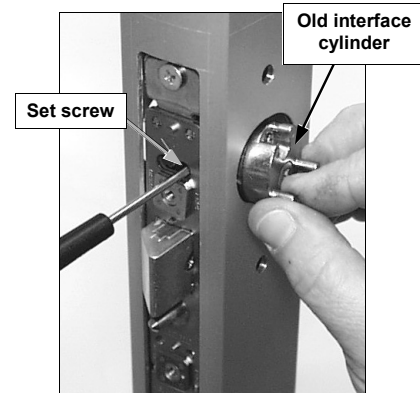

Fig. 5: Loosen set screw before removing the old interface cylinder (if present)
5. Loosen the set screw, then remove the outside cylinder (if present--See Fig. 5).